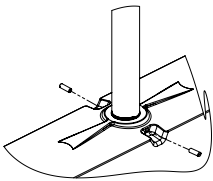

Figure 8. Pendant Mount Set Screw Detail
- 6. Tighten set screws on driver housing as shown in Figure 8. Torque set screws to 20 in-lb (2.3 N-m).